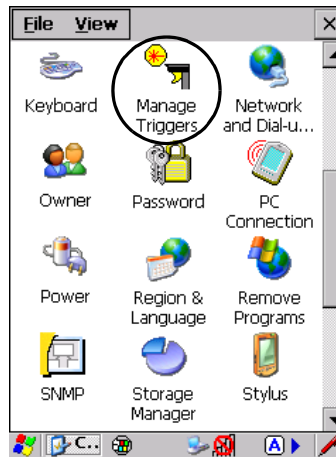

Figure 5.28 Manage Triggers Icon
- In the *Control Panel*, choose the **Manage Triggers** icon (see Figure 5.28 on page 111).